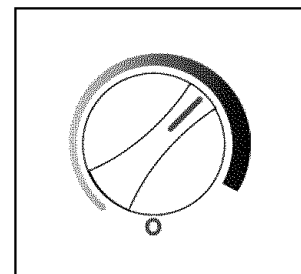

Fig. 15
- When maximum cooling is achieved, turn back the temperature control knob setting to the 2:00 o'clock position on the graduated blue control dial. **See Fig. 15**
- To maintain temperatures ranging between 34°F ~ 38°F.(1°C ~ 3°C) We recommend the thermostat knob be positioned at the "2:00 o'clock" setting on the graduated blue control dial. **See Fig. 15**